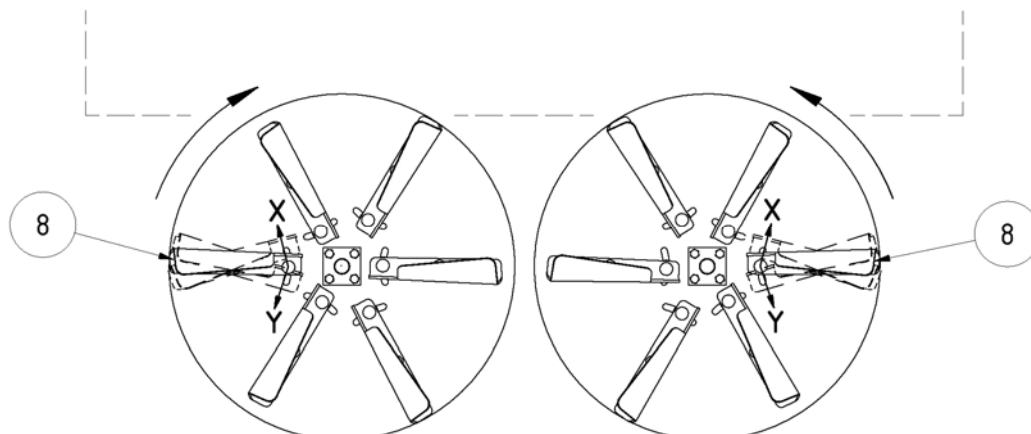

Fig. 5: Spreading Disc
- Rotation of the throw shovel loader (see disc setting with the irregular spread pattern - Fig 5)
The throw shovel loader (8) can be adjusted as required within the slotted holes (Fig. 5).